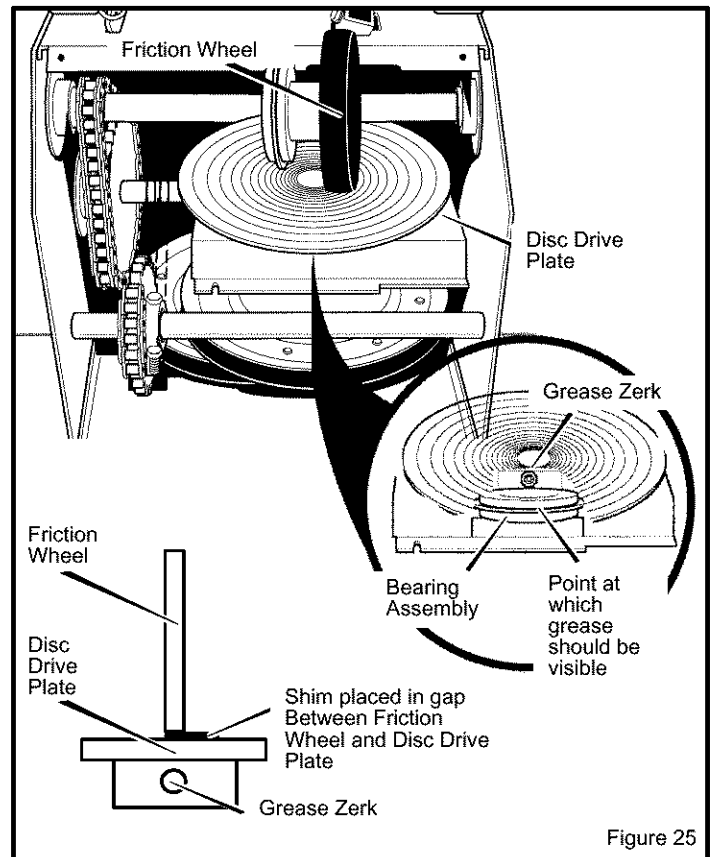

Figure 25
3. Position speed selector lever in first (1) forward gear.
6. Turn disc drive plate clockwise by hand until grease zerk is clearly visible at front center (see Figure 25).
7. Place a coin or **(a shim of equal thickness)** between the rubber friction wheel and disc drive plate to prevent rubber friction wheel contacting the drive disc (see Figure 25).
8. To grease zerk, use a hand grease gun, lubricate with a Hi Temp EP Moly grease. See inset of Figure 25. **DO NOT** over fill or allow grease to come in contact with the disc drive plate or friction wheel or damage will result. Fill zerk only until grease becomes visible below bearing assembly located under grease zerk.